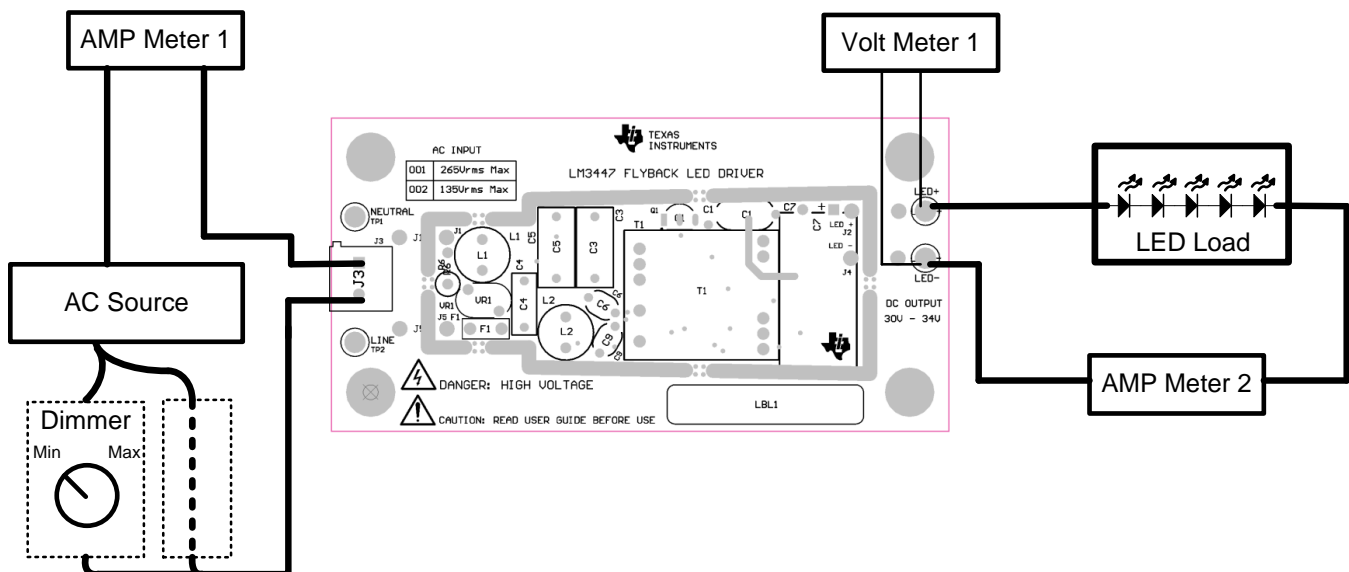

Figure 2. LM3447-PAR-230VEVM Recommended Test Set Up
1. Connect EVM per Figure 2. An external LED load must be used to start up the EVM.
3. Connect scope probe to EVM per Figure 2 to bridge rectifier output.